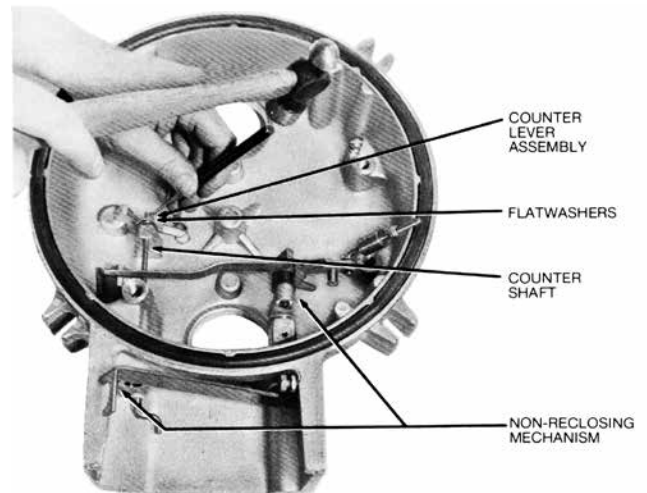

Figure 43. Head mechanism parts being removed
10. Drive out the rollpin that secures the counter lever assembly to the counter shaft as illustrated in Figure 43. Pull out the shaft. Note the flatwasher that separates the counter lever assembly and the post in the head casting.